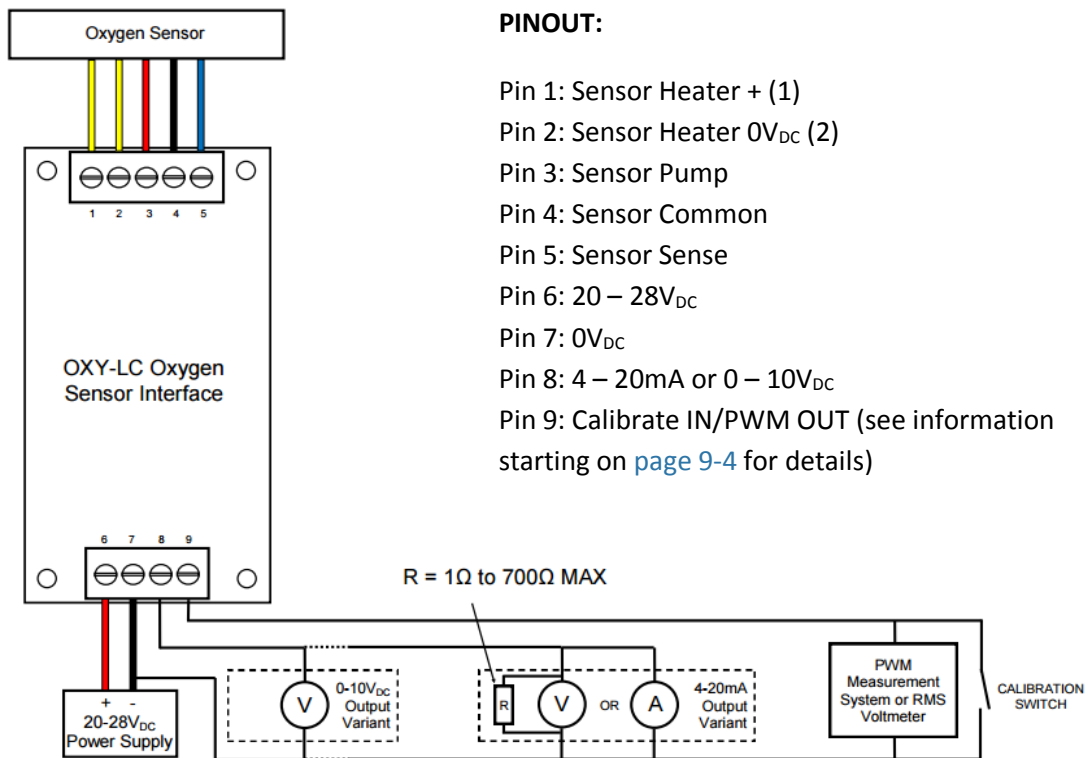

Figure 5-3 - Analogue Variant Electrical Connections
**NOTE:** The calibration switch (shown in Figure 5-3) can be a mechanical switch, a relay contact, a NPN transistor or a N-Channel MOSFET.